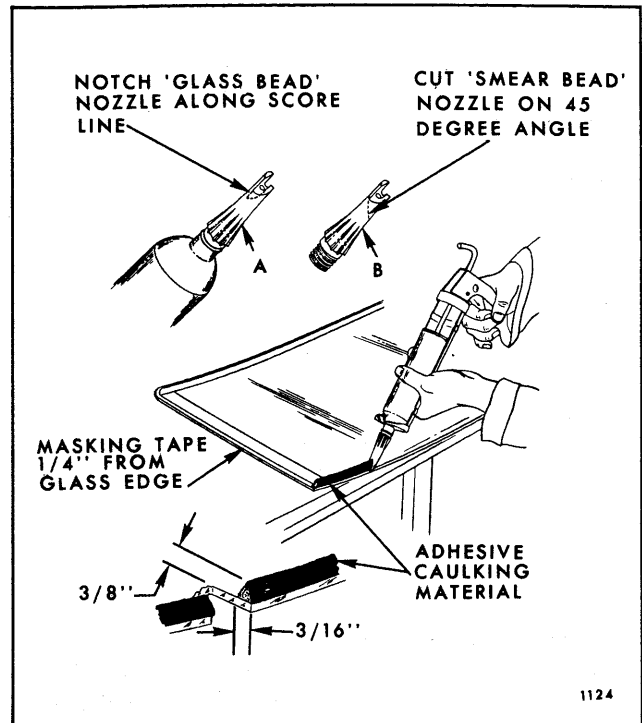

Fig. 8-24—Adhesive Caulking Material Application - Extended Method
- 8. Apply one inch masking tape completely around edge of glass inner surface 1/4" inboard from outer edge (see Fig. 8-24).
- 12. With caulking gun and nozzle positioned as illustrated in Figure 8-24, carefully apply a smooth continuous bead of caulking material 3/8" high by 3/16" wide at base completely around inside edge of glass.